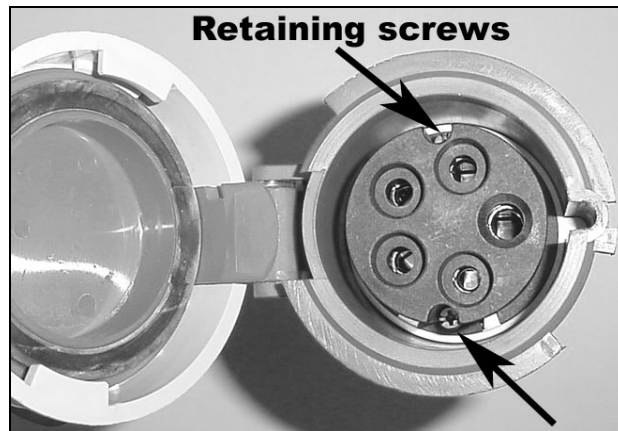

Figure 2: Receptacle insert retaining screws.
2. Unscrew both retaining screws (see Figure 2) and remove the receptacle insert.